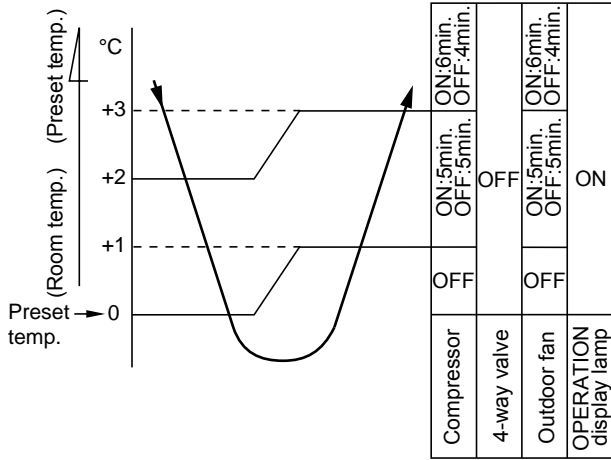

Fig. 7-2-4
- (1) The compressor, 4-way valve, outdoor fan and operation display lamp are controlled as shown in Fig. 7-2-4.